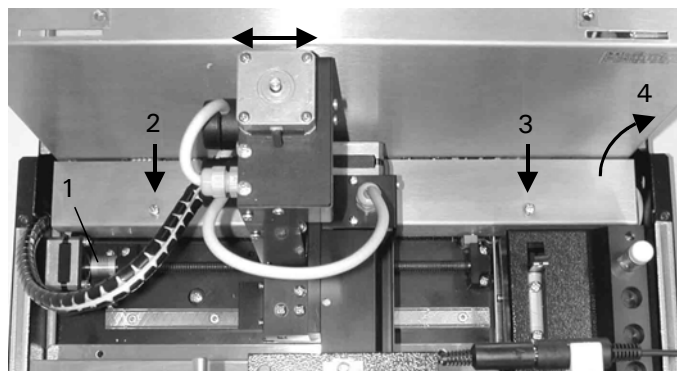

FIGURE 3-4 Removing the Cover
- b) Move the table to the middle of the instrument by rotating the spindle manually (item 1; FIGURE 3-4). Remove the two screws (items 2, 3; FIGURE 3-4) and then move the table drive into the most left position.
- c) Remove the cover plate (items 4; FIGURE 3-4).